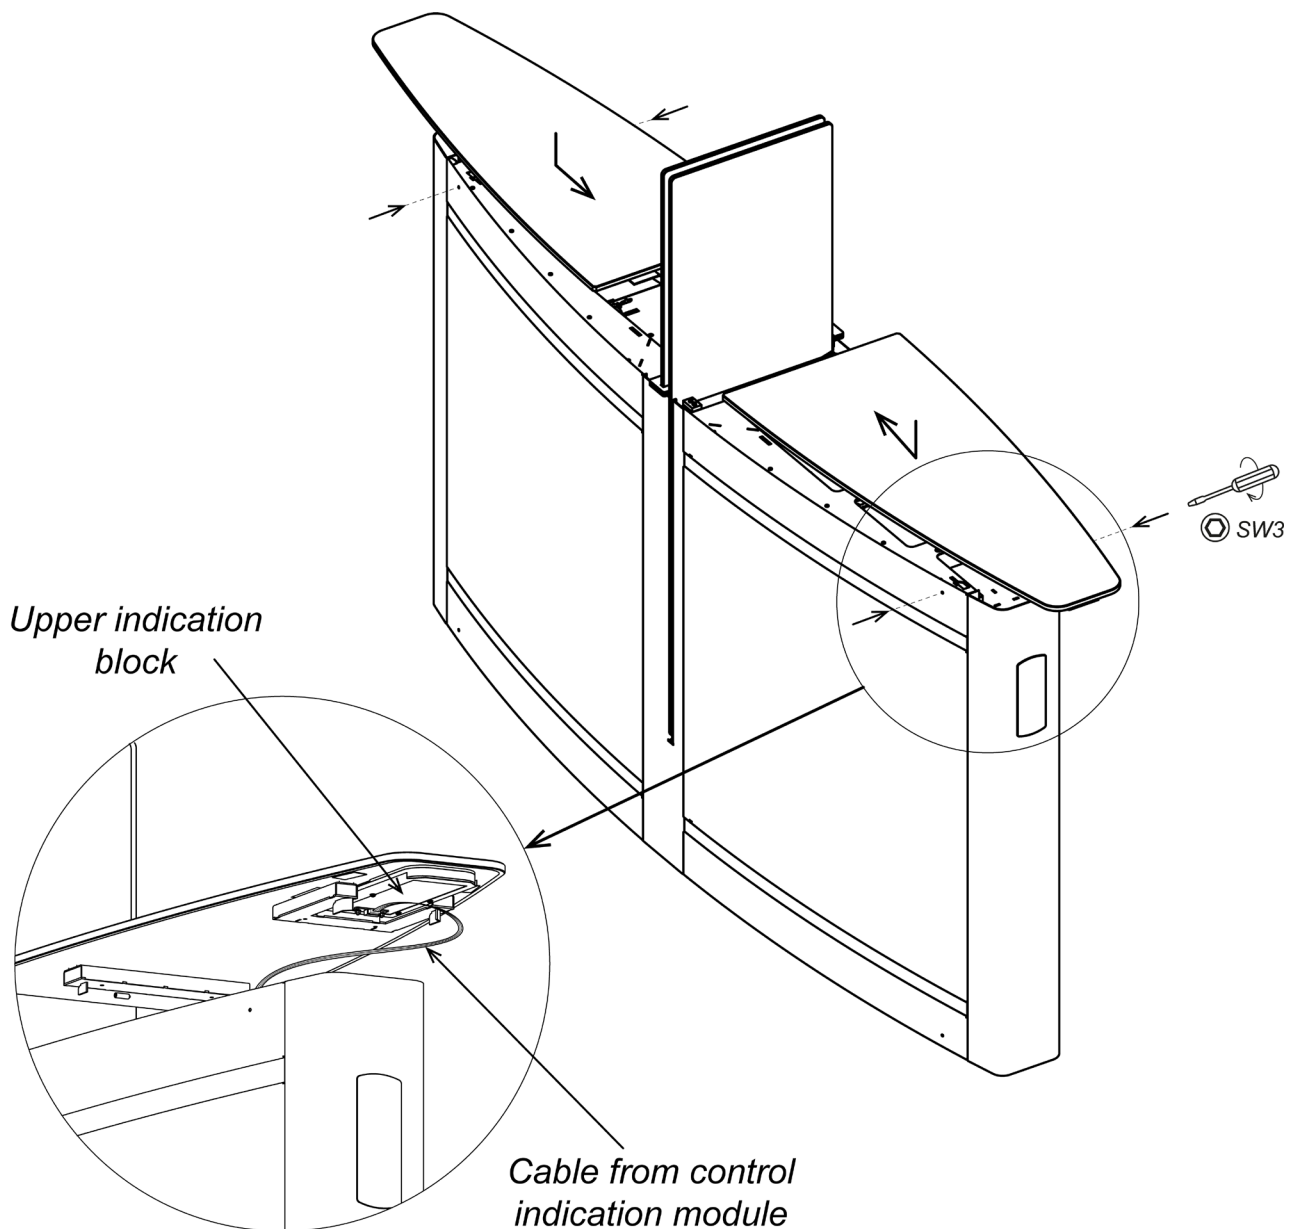

Figure 26. Installation of the glass top covers
1. Unscrew the two M6×16 set screws all the way out by using SW3 Allen wrench through the holes on top of the section front end (see Fig. 26).